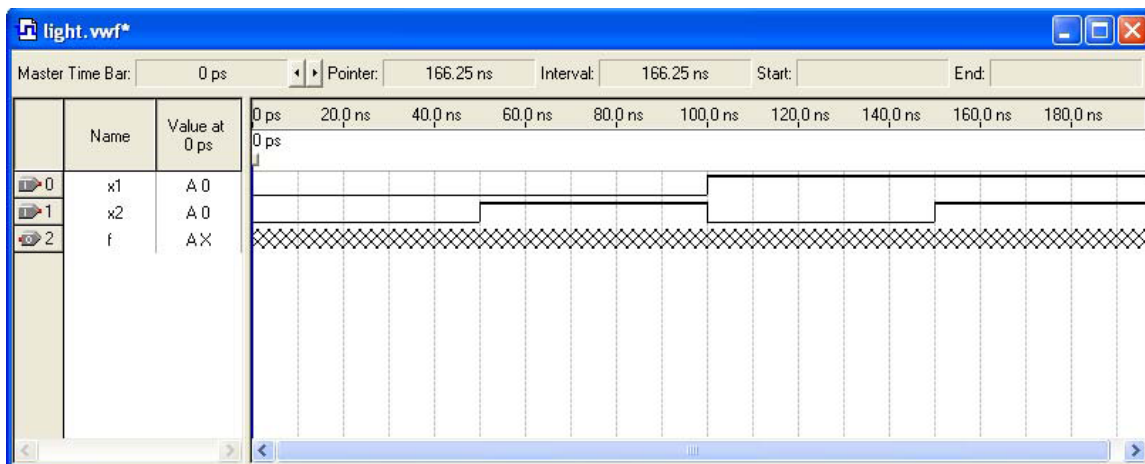

Figure 11. Setting of test values.
2. Once a waveform is selected, the editing commands in the Waveform Editor can be used to draw the desired waveforms. Commands are available for setting a selected signal to 0, 1, unknown (X), high impedance (Z), don't care (DC), inverting its existing value (INV), or defining a clock waveform. Each command can be activated by using the **Edit > Value** command, or via the toolbar for the Waveform Editor.
5. Make $x2 = 1$ from 50 to 100 ns and also from 150 to 200 ns, which corresponds to the truth table in Figure 11. This should produce the image in Figure 11.